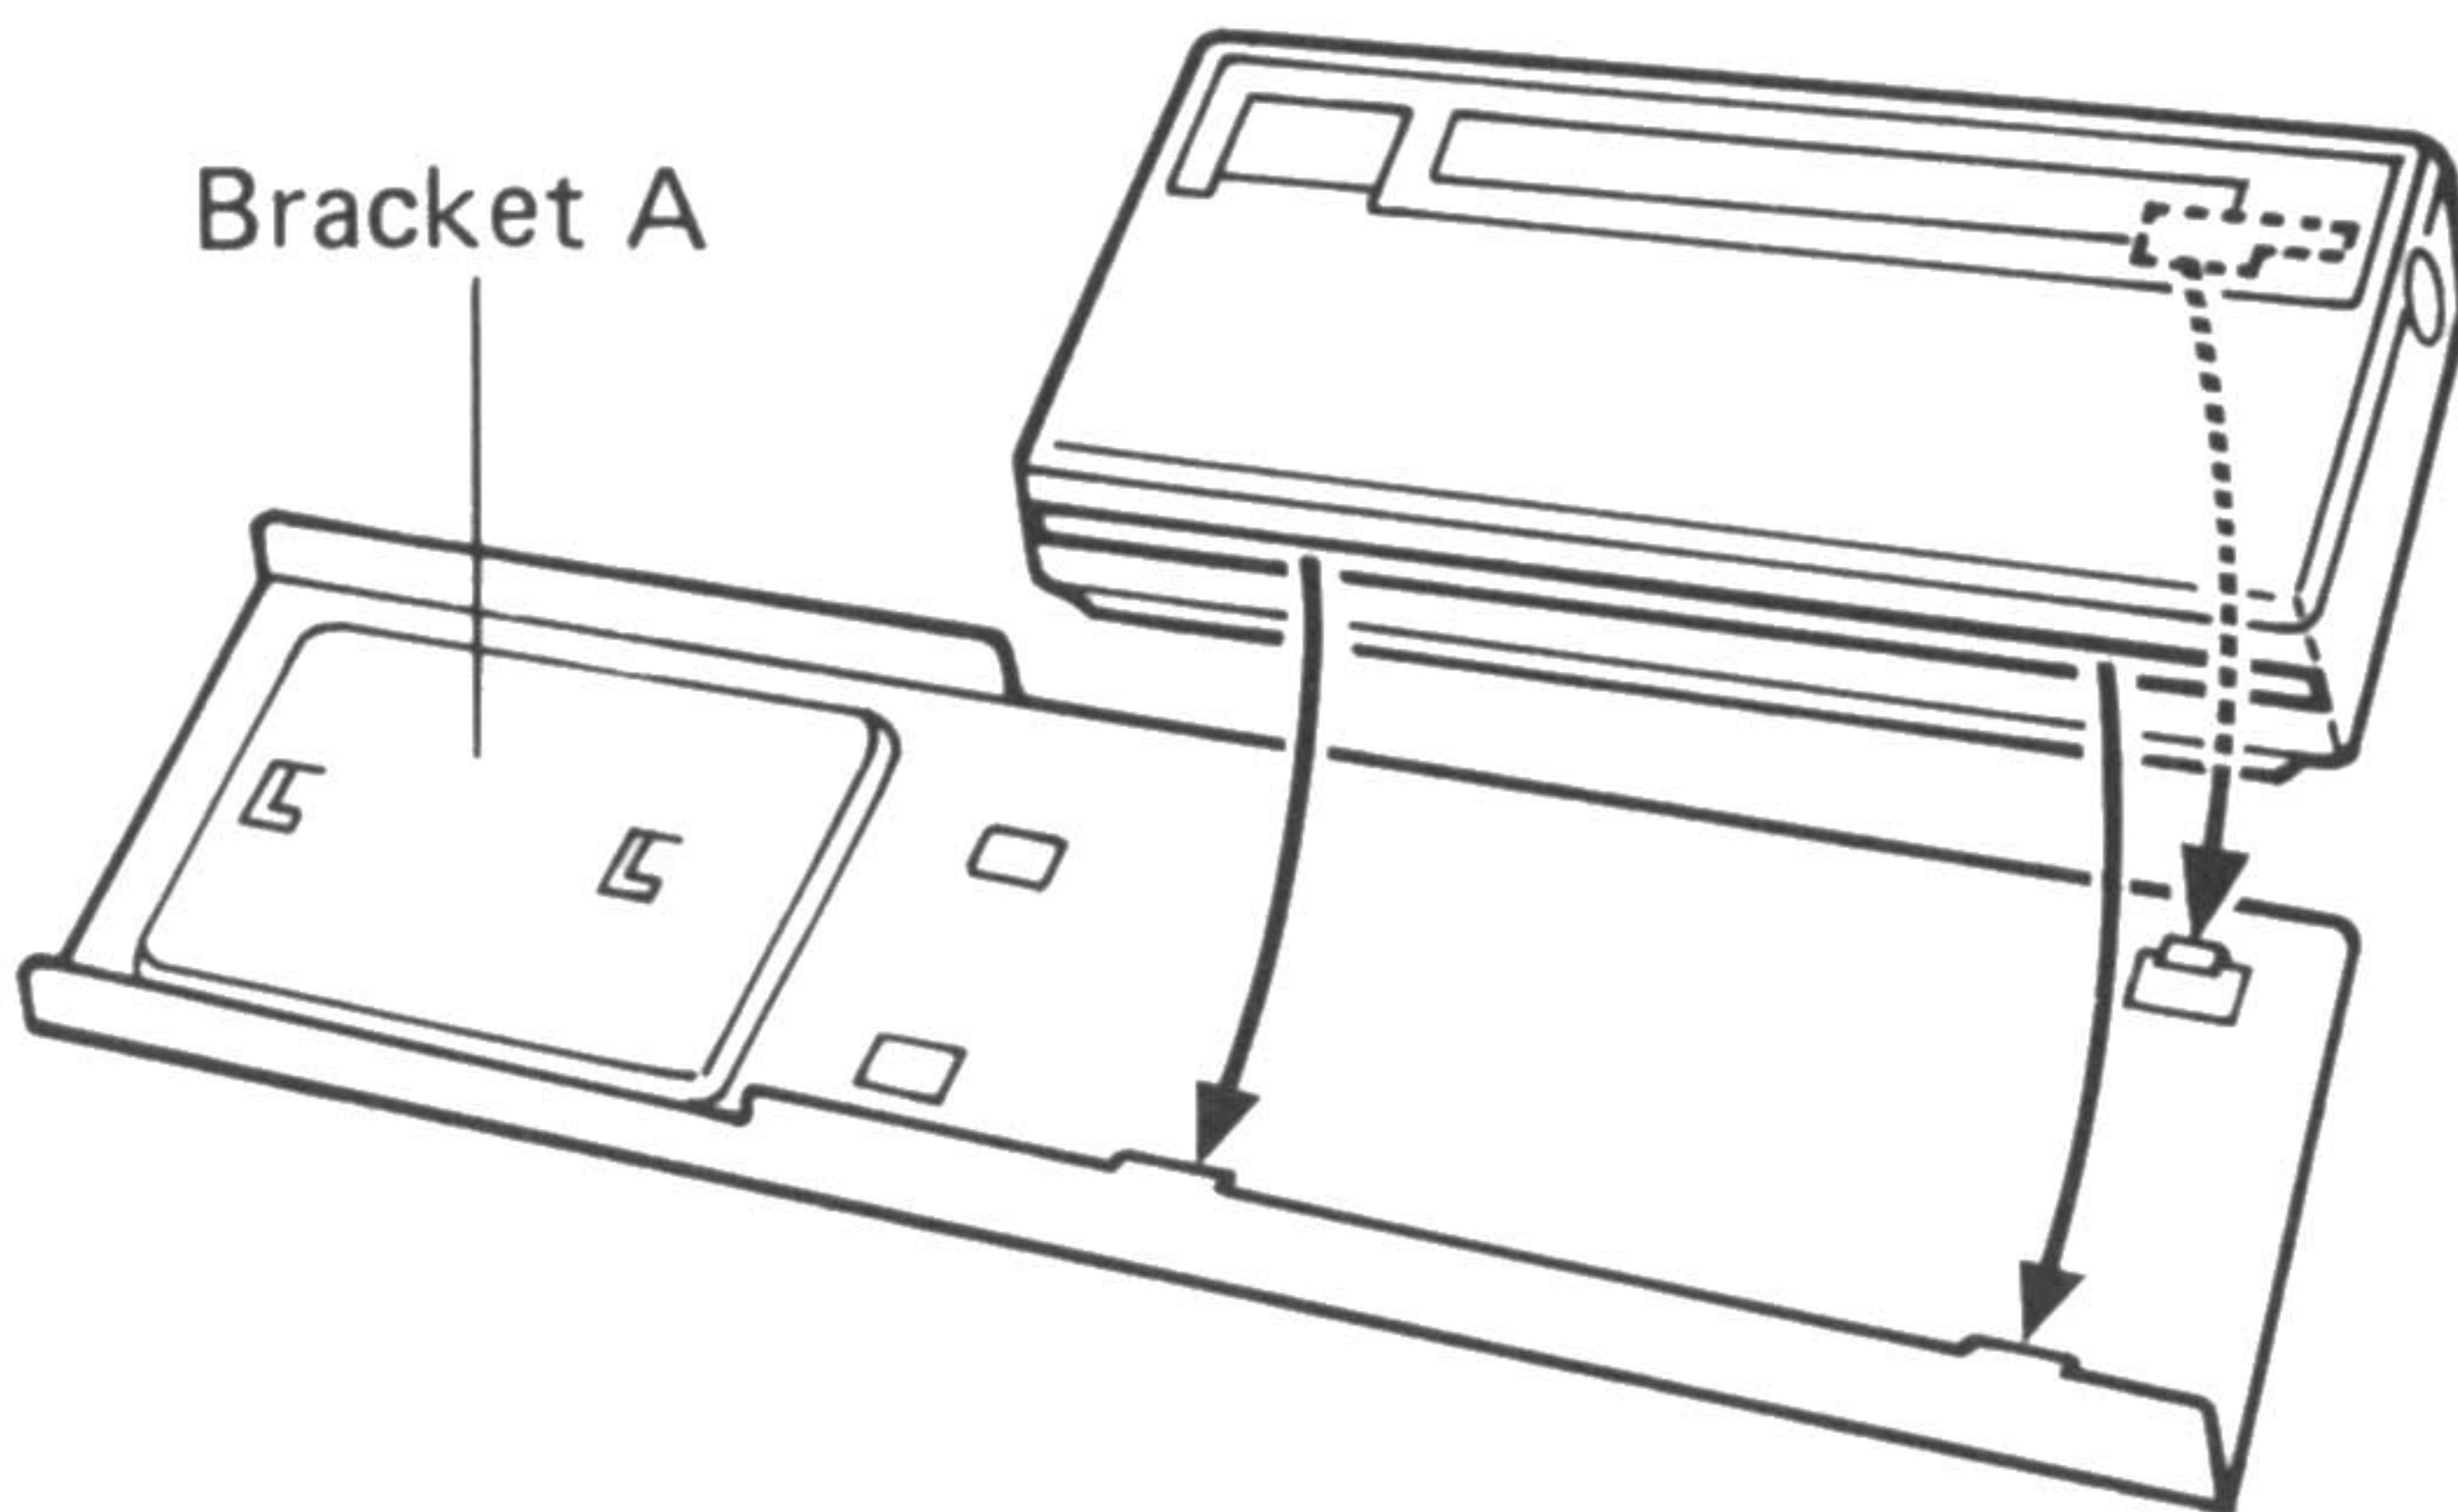

Figure 2. Connecting Metal Support Bracket A to the PC-2.
1. Slide Metal Support Bracket A into the slots located on the base of the PC-2 (Figure 2).